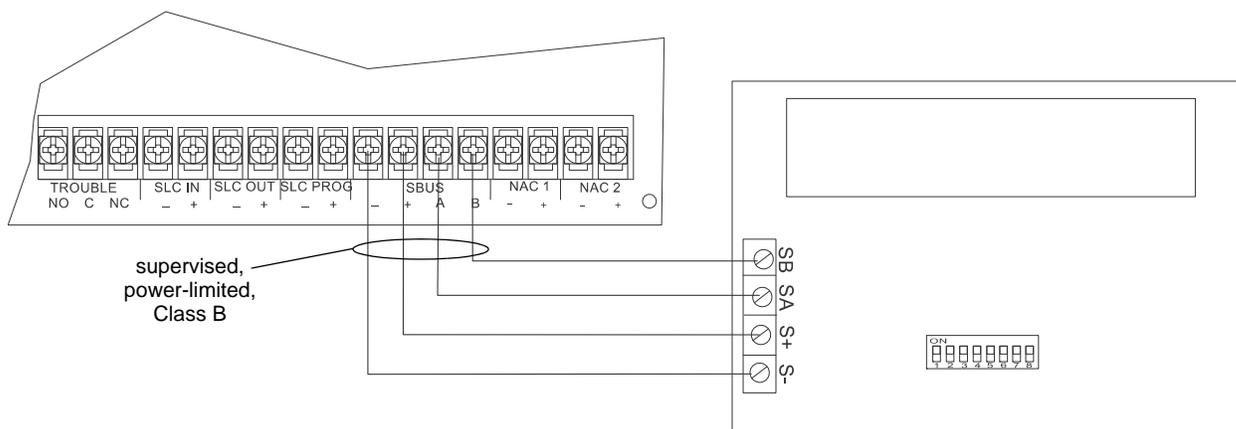

Figure 4.27 6860 Connection to the Panel
3. Wire the annunciator board to the main control panel as shown in Figure 4.27.
- Run wires to the control panel. Refer to Figure 4.27.